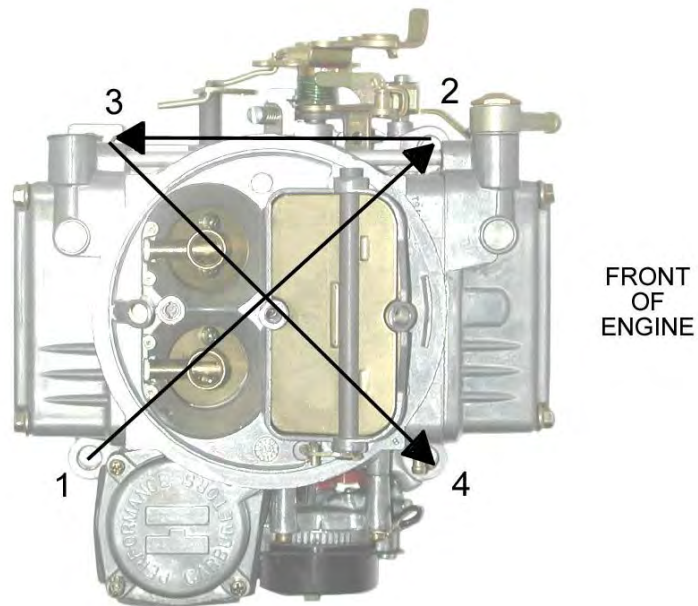

Figure 1—Carburetor torque sequence (all Holley® carburetors)
3. Place the carburetor on top of the flange gasket on the manifold. Install the hold down nuts and snug down progressively in a “crisscross” pattern (60-80 in./lbs.), as shown in Figure 1.